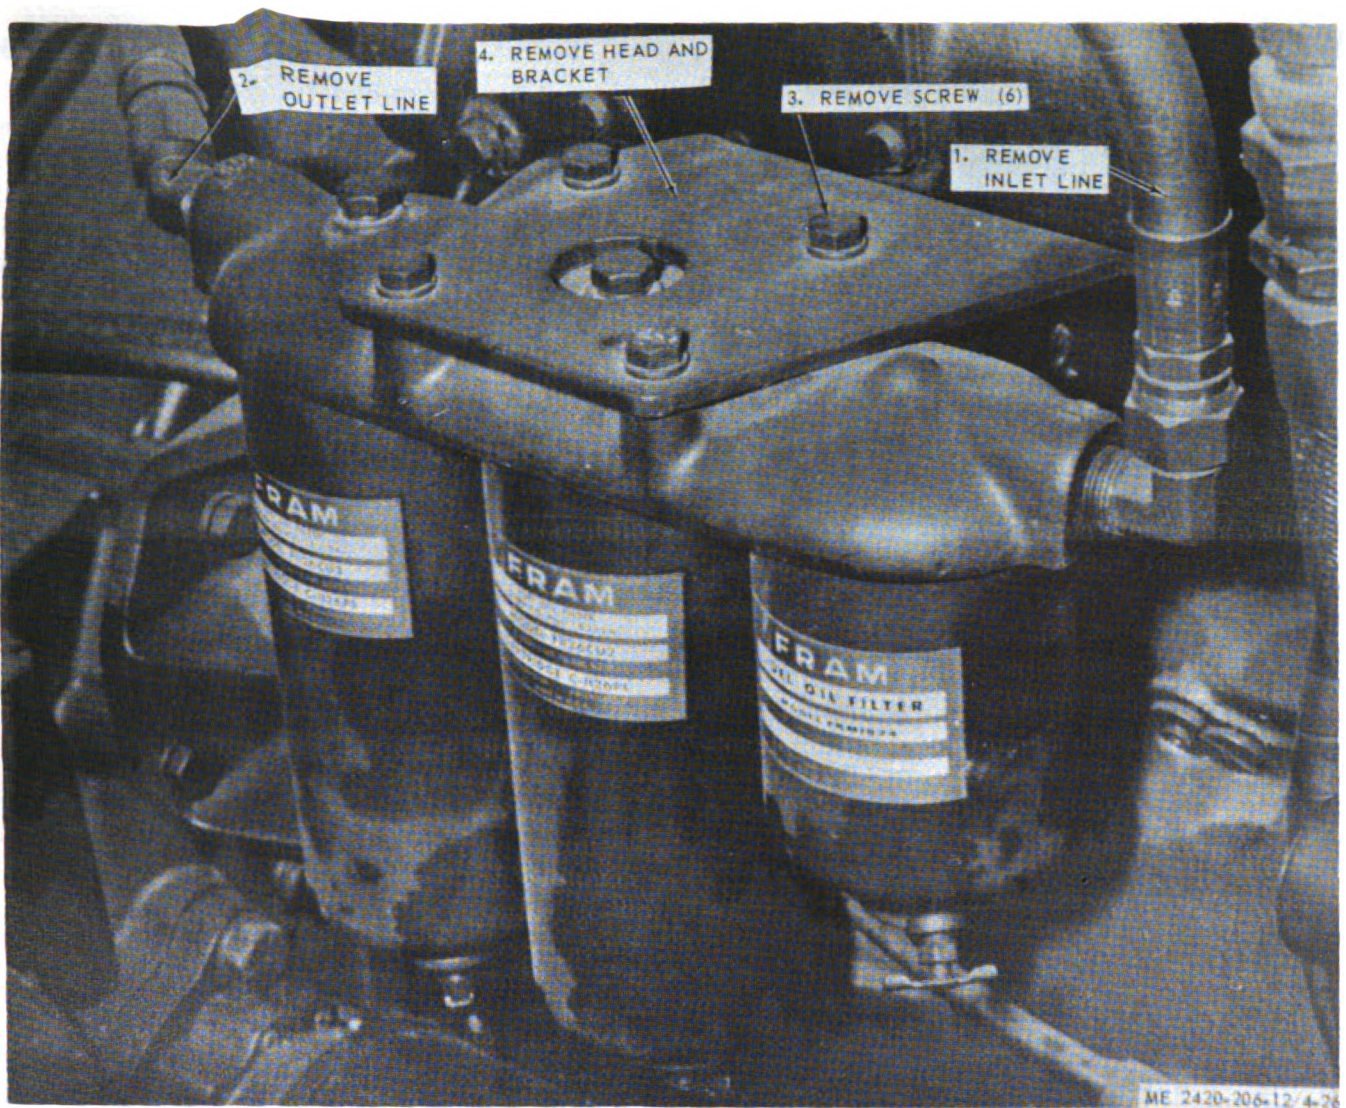

Figure 4-26. Fuel filter head, removal and installation.
(1) Install filter heads as illustrated in figure 4-26.
(2) Install elements (para 3-5).